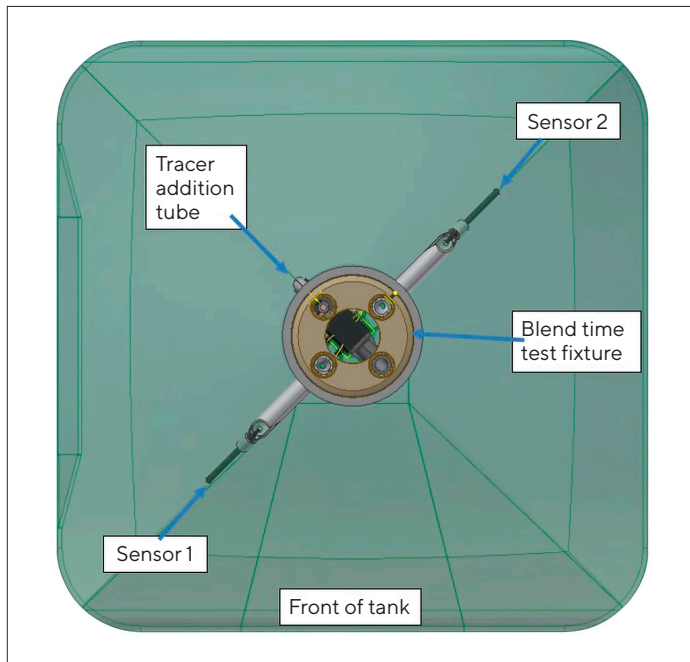

Figure 1: Sensors and tracer addition tube location
4. Calibrate the two conductivity sensors, using the 0.01 M KCl conductivity standard. Connect the conductivity sensors to the electrochemical meter. Install a blend time test fixture including the two conductivity sensors and a tracer addition tube at the top of the bag, through the canotier (figure 1).